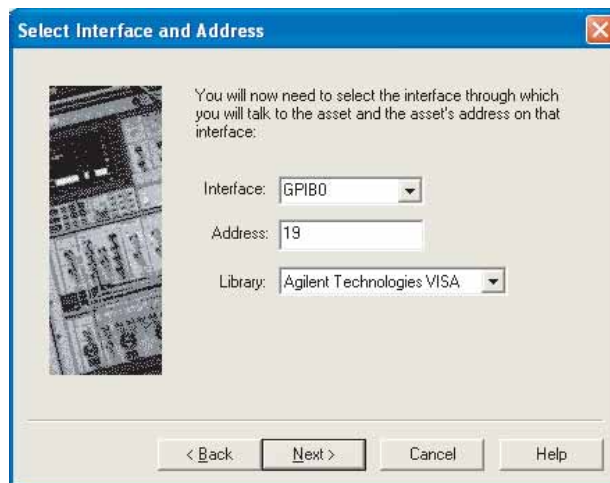

Figure 24 Select I/O library
- 5 From the **Interface** pull-down list, select **GPIB0**. See Figure 24.